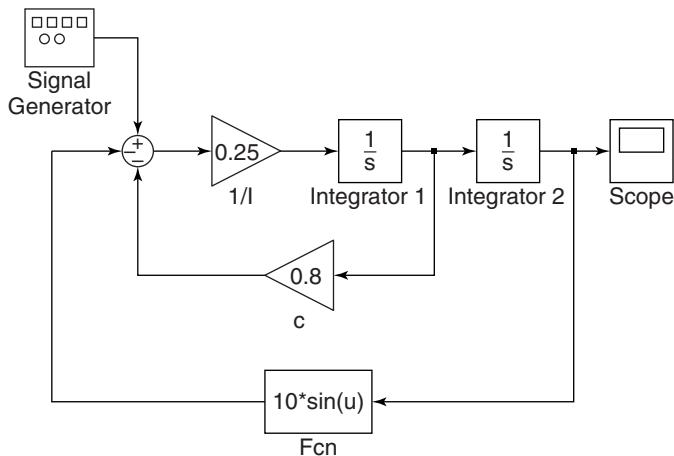

Figure 10.6–2 Simulink model of nonlinear pendulum dynamics.
1. Select and place in the new window the Integrator block from the Continuous library, and change its label to Integrator 1 as shown in Figure 10.6–2. You can edit text associated with a block by clicking on the text and making the changes. Double-click on the block to obtain the Block Parameters window, and set the Initial condition to 0 [this is the initial condition $\dot{\theta}(0) = 0$]. Click **OK**.
4. Copy the Gain box, change its label to c , and place it as shown in Figure 10.6–2. Double-click on it, and set the Gain value to 0.8. Click **OK**. To flip the box left to right, right-click on it, select **Format**, and select **Flip**.